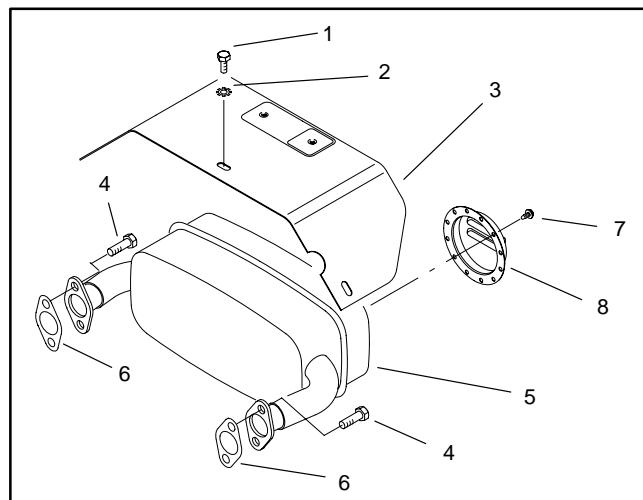

Figure 24
- Remove cap screws securing muffler and both gaskets to the cylinder heads. Pull muffler from the engine (Fig. 24 and 25).
- Secure gaskets and muffler to cylinder heads with cap screws (Fig. 24 and 25).